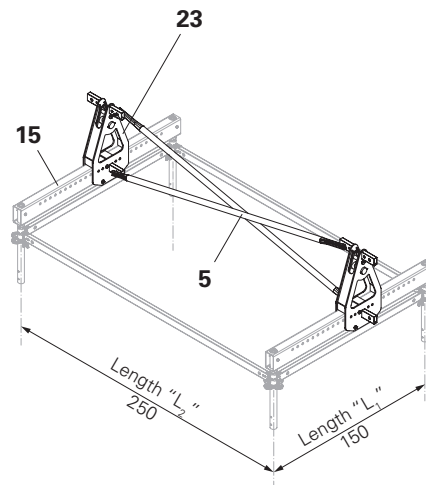

Fig. A7.03
1. Install Ledger Braces UBL-2 (5) crosswise on the Bearer URS (23). (Fig. A7.03)